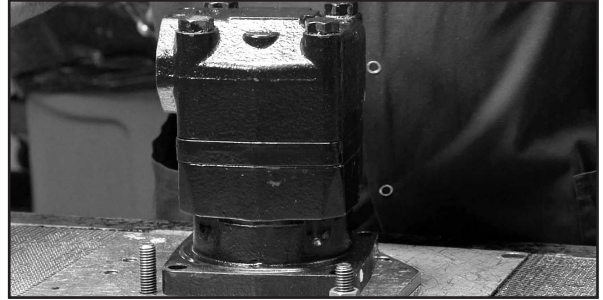

Figure 1
**Place Motor in a Vise** Place the motor in a soft jawed vise, with coupling shaft pointed down and the vise jaws clamping firmly on the sides of the housing. (Figure 1)